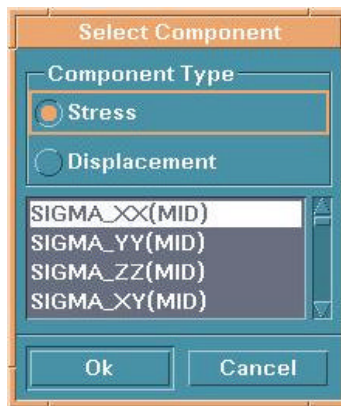

Figure 8.1.6 Select Component
- Select a component in the next dialog window, see Figure 8.1.6.